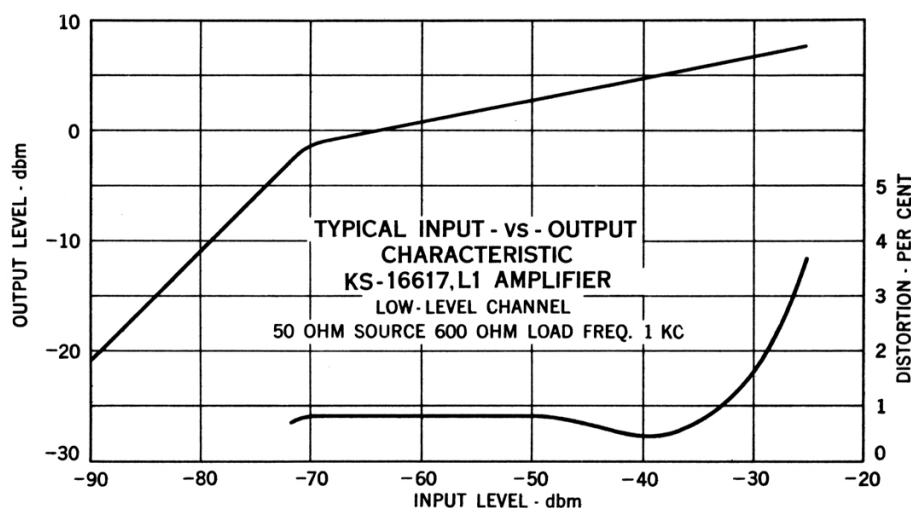

Fig. 5 – Low-Level Channel — Input vs. Output and Distortion
6.03 Fig. 5 shows input—output characteristics of the low-level channel. The figure also